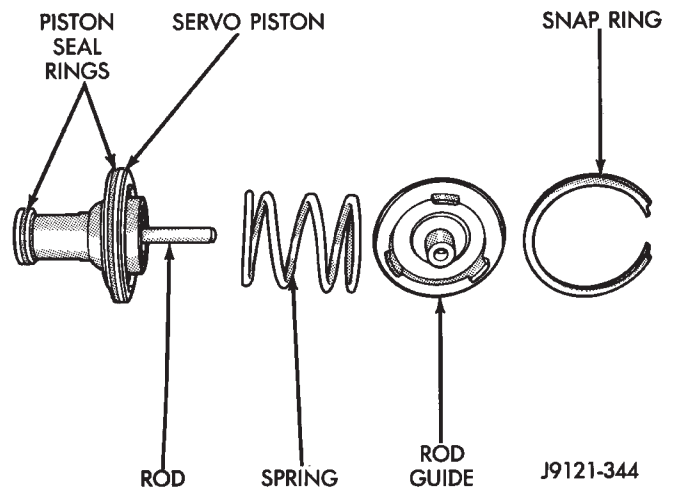

Fig. 115 Front Servo Components
(2) Install front servo piston assembly, servo spring and rod guide (Fig. 115).